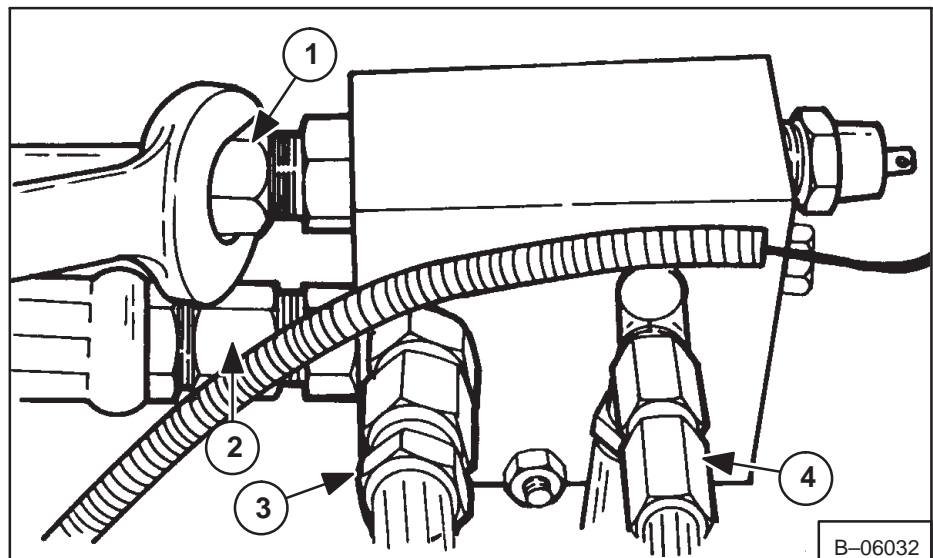

Fig. 3-26 Port Block Assembly
4. Remove the tubeline (Fig. 3-26, Item 1).
5. Remove reservoir hose (Fig. 3-26, Item 2).
6. Remove the charge pressure hose (Fig. 3-26, Item 3).
7. Remove the case drain hoses (Fig. 3-26, Item 4).
3. Install the case drain hoses (Fig. 3-26, Item 4).